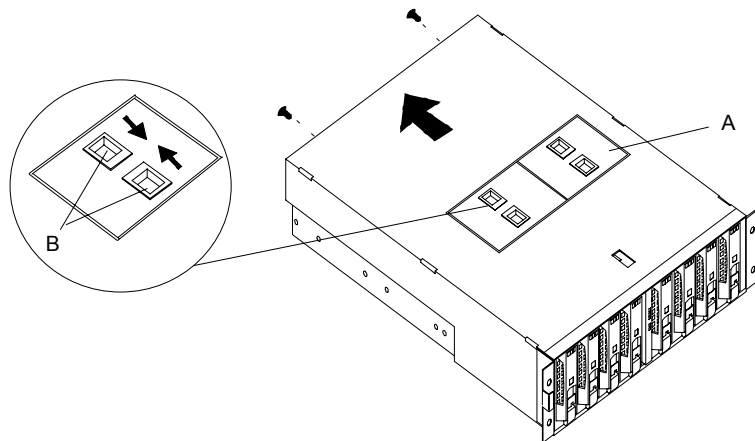

Figure 4-74. Removing the DEU top Cover
8. Remove the fan assemblies (see Figure 4-74, A) from the DEU chassis. Squeeze the fan assembly latches (Figure 4-74, B) towards each other while lifting the assembly up and away from the DEU. Remove both fan assemblies and set them aside.
9. Remove the two screws securing the top cover to the rear of the DEU chassis. See Figure 4-74.
10. Slide the top cover towards the rear of the DEU chassis until its tab fasteners unlock (see Figure 4-74). Lift the top cover up and away from the chassis.